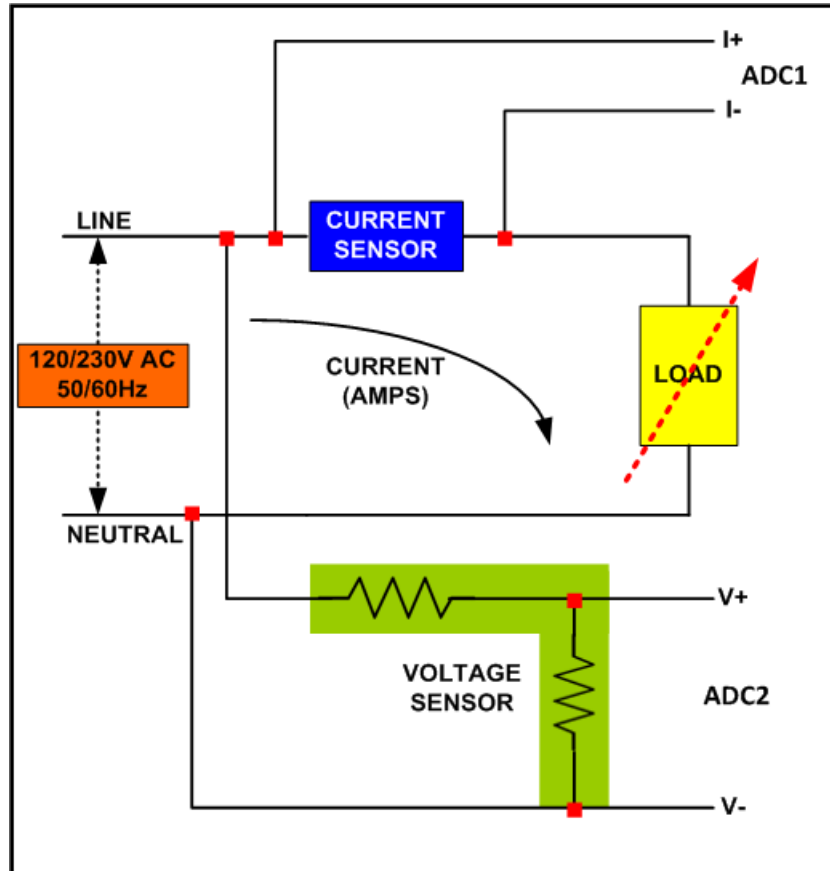

Figure 1. Typical Per-Phase Connections Inside an Electronic Meter
Figure 1 shows typical connections for one-phase electronic electricity (energy/e-) meters in real life applications. For poly-phase meters, the connection in Figure 1 is duplicated for each phase. The ac voltages supported are 120 V/230 V at 50/60 Hz with the associated currents. The labels Line (L) and Neutral (N) are interchangeable and are indicative of ac mains voltage source from the energy utilities.